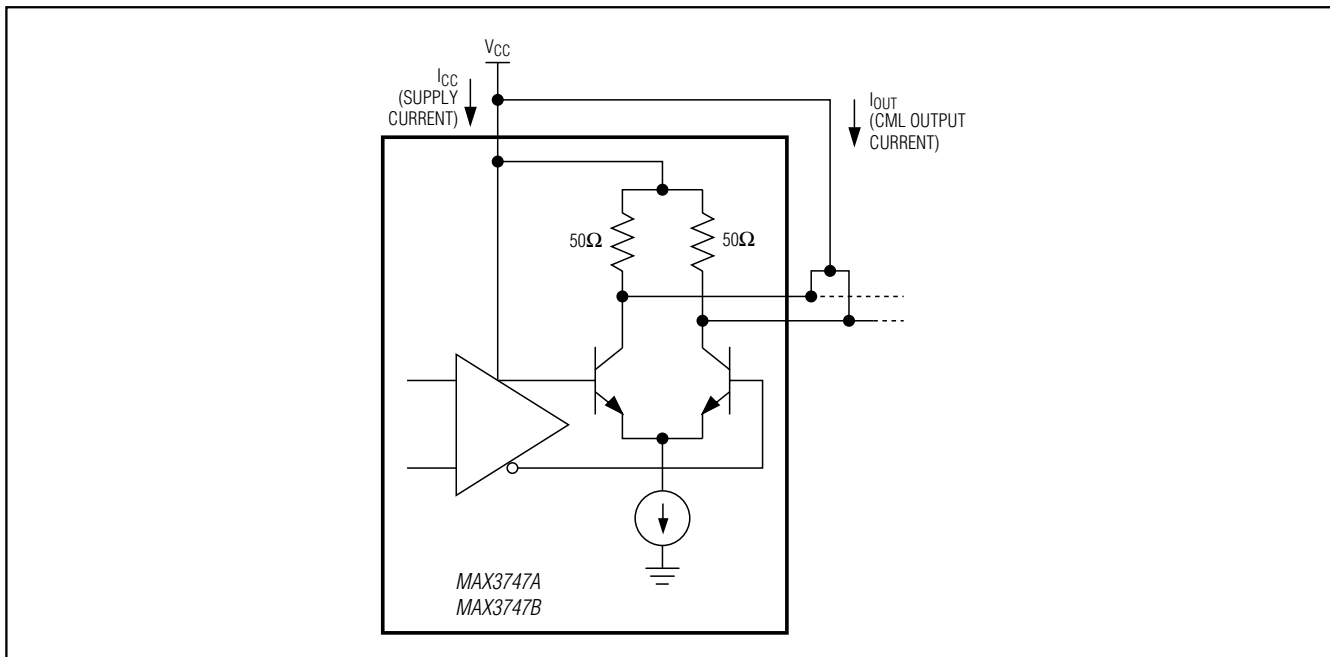
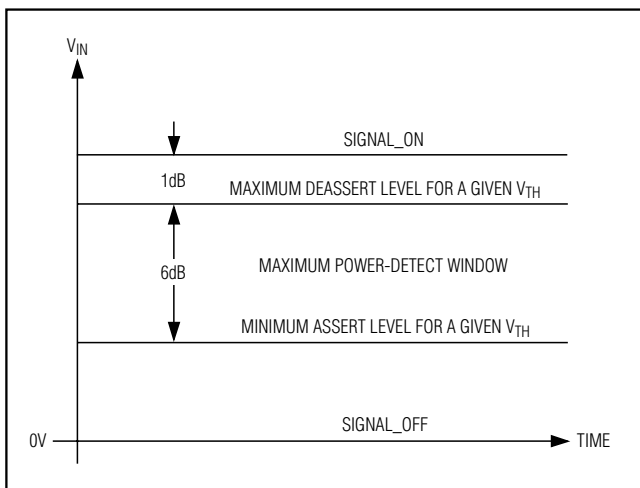

Figure 1. Power-Supply Current Measurement
Figure 2A. LOS Deassert Threshold—Set 1dB Below Receiver Sensitivity
**Note 2:** Supply current is measured with unterminated outputs or with AC-coupled output termination (see Figure 1).
**Note 5:** The deterministic jitter (DJ) caused by the input filter is not included in the DJ generation specification.
**Note 8:** The signal at the input is switched between two amplitudes, Signal\_ON and Signal\_OFF, as shown in Figure 2A.